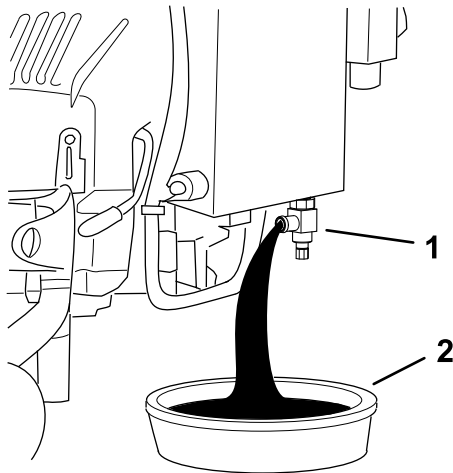

Figure 47
6. Place a drain pan under the drain valve (Figure 47).